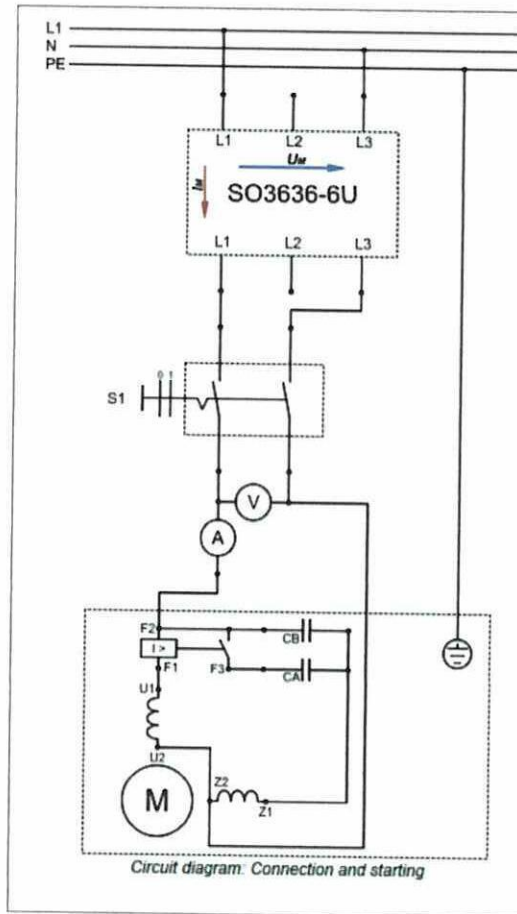

Figure Q3 (c)
(c) **Figure Q3(c)** shows the connection and starting for capacitor motor.
- (i) In which direction does the motor in **Figure Q3(c)** turn? (1 mark)
- (ii) Draw the circuit in **Figure Q3(c)** with some modification to make the motor turns to the opposite direction. (4 marks)
- (d) Determine the rotation for each circuit connection below based on **Figure Q3(c)**